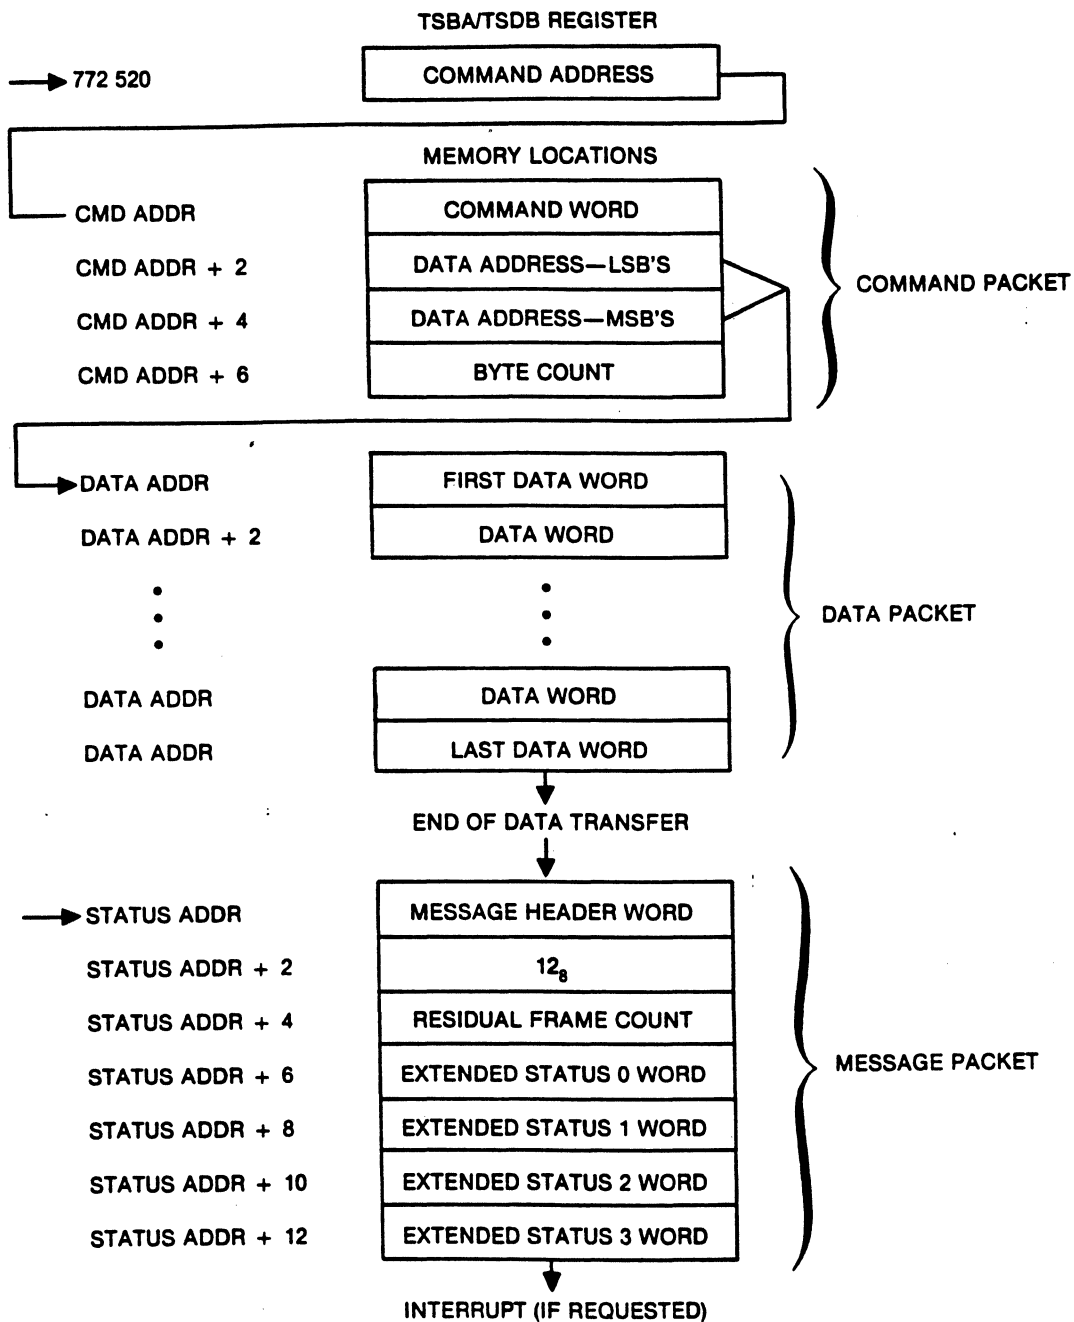

Figure 4-2. Read/Write Command Sequence
5. The coupler accesses the command packet. Read/write command packets comprise four successive memory locations (eight bytes) that contain (see Figure 4-2):